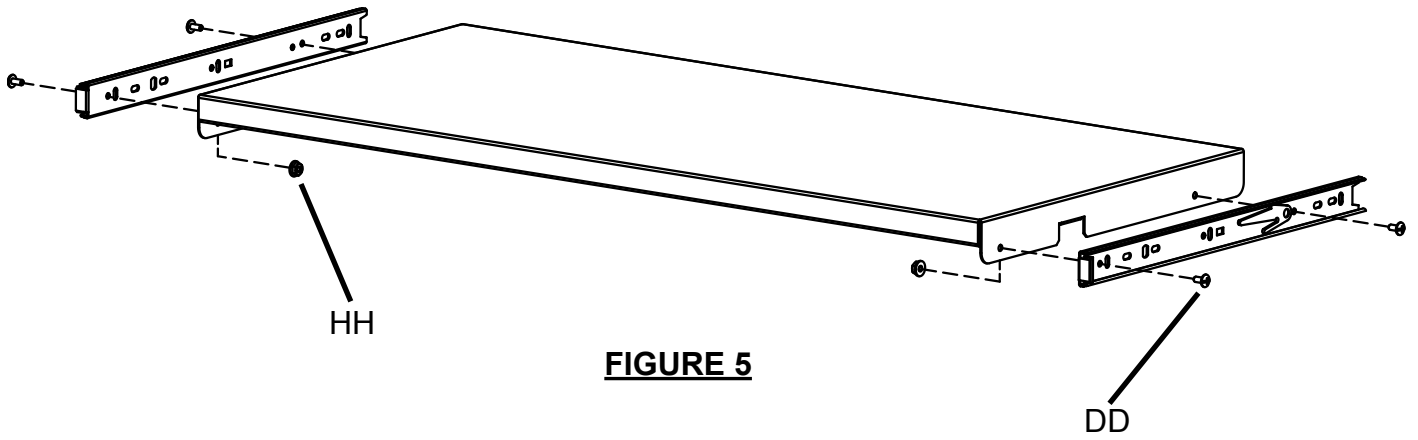

FIGURE 5
Attach the remaining slide pieces to the pull out shelf with screws (HH) and nuts (JJ) as shown in **FIGURE 5**. Then slide shelf into cart as shown in **FIGURE 6**.